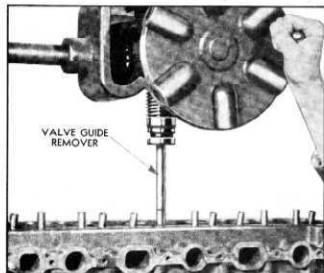

Fig. 14—Removing Valve Guides
- Place the cylinder head on the table of an arbor press and press the old valve guides out using remover J-267 (fig. 14).